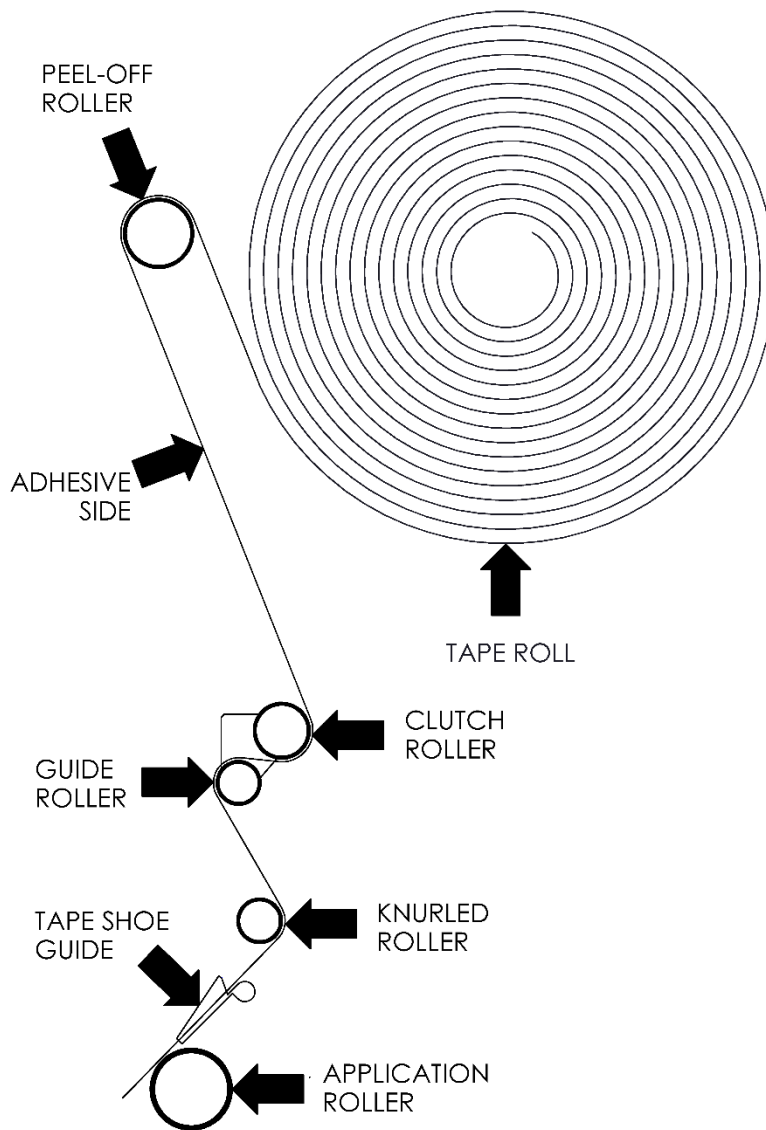

Figure 5-4
The illustrated label shown in **Figure 5-4** is attached to the operator side plate of each tape head. The label provides operators and service personnel the proper method of threading a new roll of tape through the tape head.
3. Push the roll of tape onto the mandrel with the adhesive side facing away from the peel Off Roller (refer to **Threading Diagram on Figure 5-4** under Tape Threading section in this manual) until the core sits against the mandrel flange. The hooked red sprag should latch on the tape core. While removing the tape this should be pressed down to free the core.